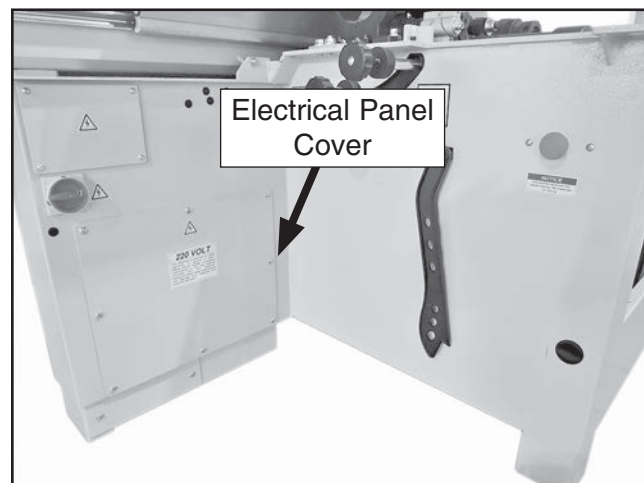

Figure 7. Electrical panel cover location.
2. Using a 4mm hex wrench, remove electrical panel cover (see **Figure 7**) from back of frame.